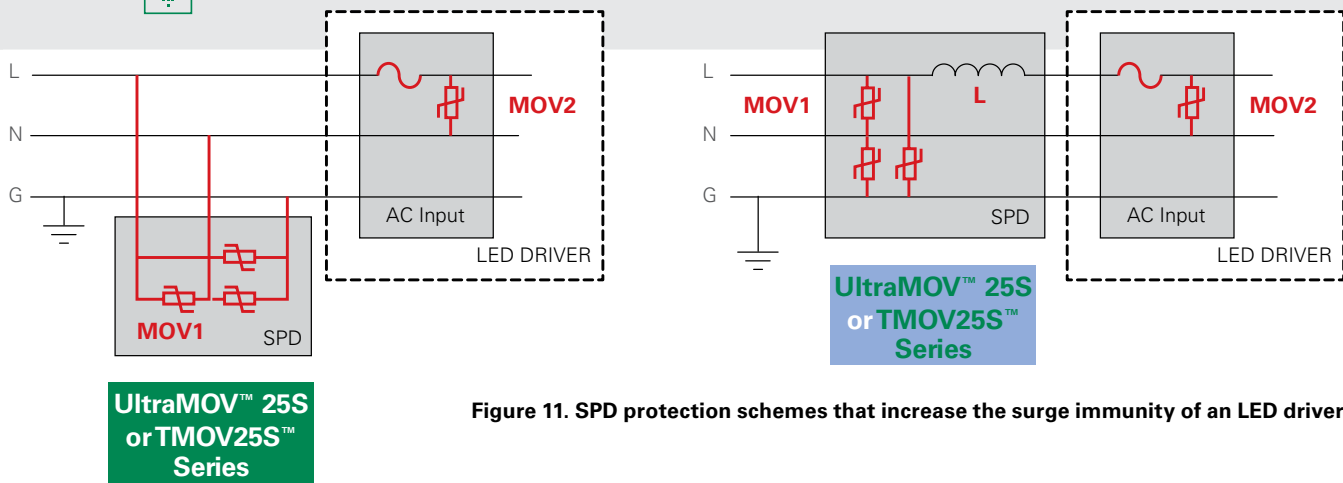

Figure 11. SPD protection schemes that increase the surge immunity of an LED driver.
Generally, most LED power supplies are a constant current type, and are often referred to as LED drivers. These can be purchased as off-the-shelf assemblies containing MOVs to meet lower level surge requirements. Typically, drivers are rated to handle surges in the range of 1-4kV. The varistor (MOV2 in **Figure 11**) is usually located after the fuse on the AC mains, and can range from 7-14mm in diameter. However, to provide higher level surge immunity, outdoor lighting OEMs may want to add surge protection devices (SPDs) on the AC input lines of their luminaires ahead of the LED driver. Typically, compliance testing of luminaires involves 20kV/10kA surges in North America and up to 10kV/5kA¹ in Europe.
SPD modules are responsible for protecting luminaires against these high surge levels, which can occur in outdoor lighting environments. The SPDs use 3-4 parallel or series connected high-surge withstand (e.g. 25mm or 34mm diameter) MOVs across the AC lines, as shown in the green MOV1 block of **Figure 11**. As shown in that figure, the MOVs are installed from line to ground, neutral to ground and line to neutral. For installations in regions with severe lightning exposure, it is common to use parallel connected MOVs for the line to neutral leg. This will increase differential mode surge capability and the reliability of a luminaire.
6. Refer to the embedded links in the SPD blocks of **Figure 11** for MOV technical information. See the Littelfuse Varistor Ordering Information Diagram for details on constructing a part number.